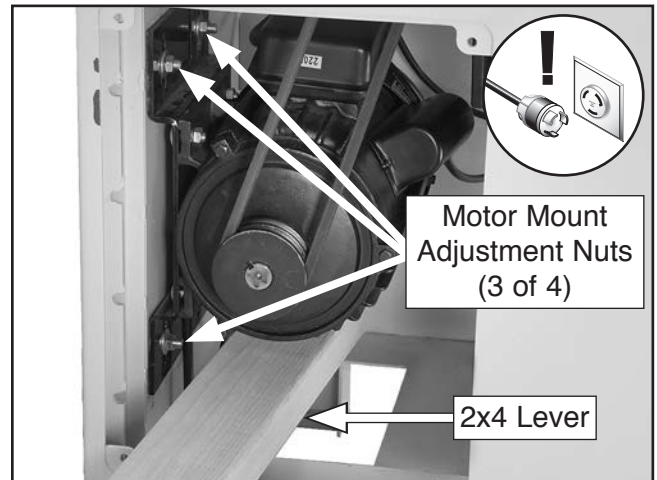

Figure 63. Removing V-belt tension for belt removal/replacement.
5. Loosen four motor mount adjustment nuts and raise motor (see **Figure 63**) to completely remove V-belt tension. It may help to use a 2x4 as a lever to lift motor.